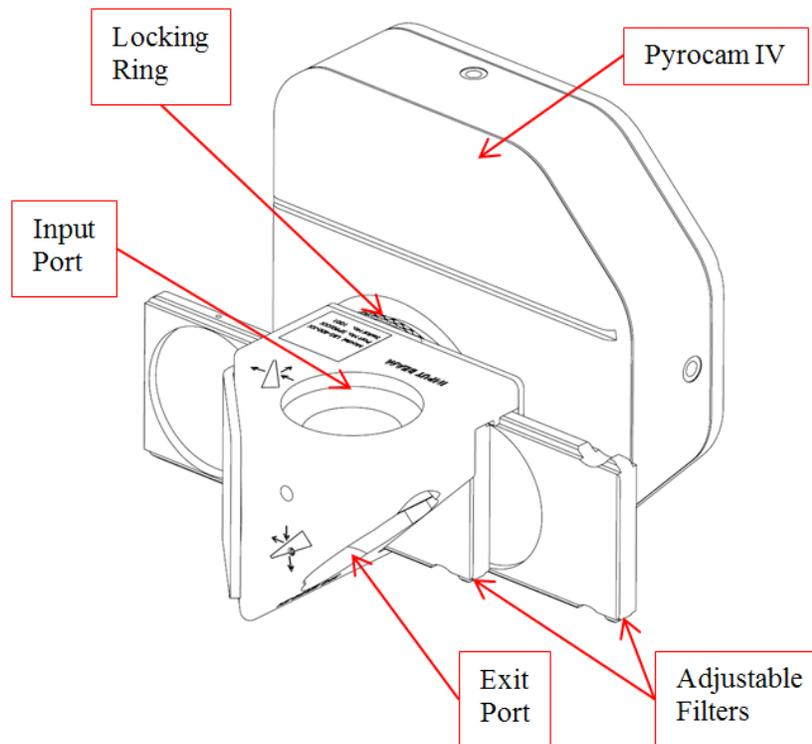

Figure 1
1. The LBS-400 is attached to the Pyrocam as shown in Figure 1 or to the L11059 (not shown). An adjustable locking ring is provided so that the beam sampler can be oriented in any required direction.